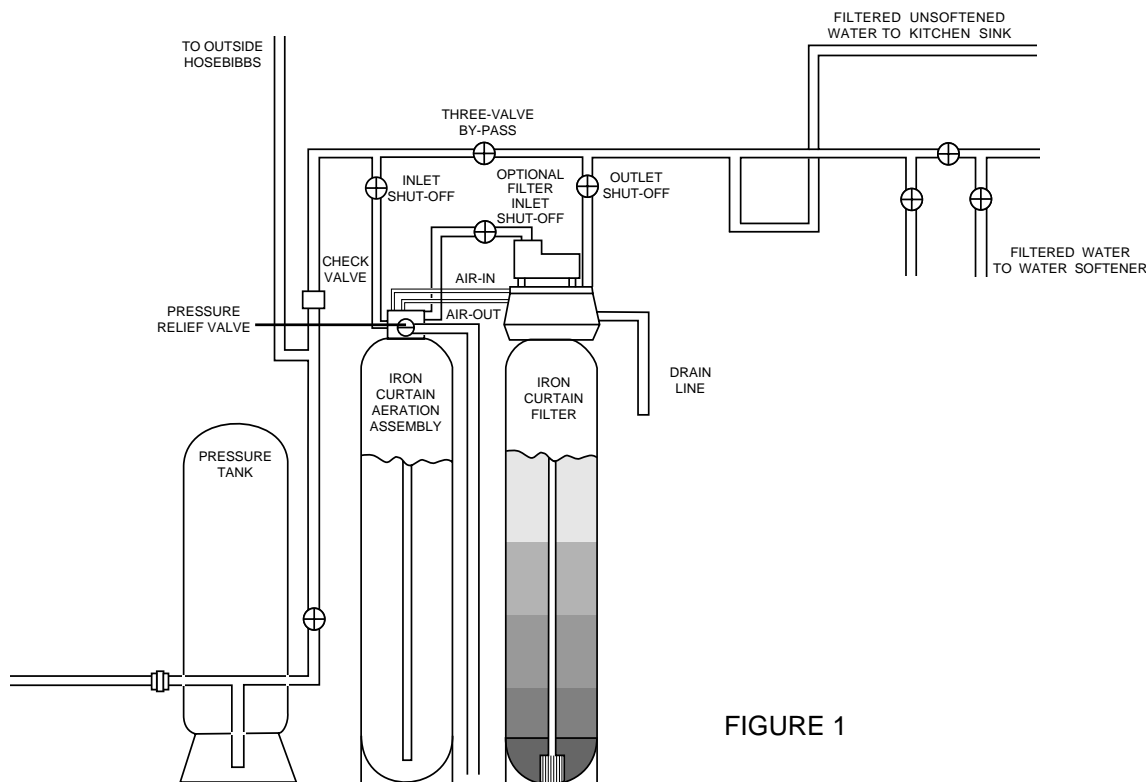

FIGURE 1
Equipment Location: See Figures 1, 2 & 3 on page 8&9.
Location of Aeration and Filter Tank: See Figures 1, 2 & 3 on page 8&9. These two tanks should be installed after the pressure tank and as close to each other as practical. If you want to filter outside hosebibs, be sure the filter system is properly sized to handle the flow rates required for extended periods of time, in addition to the normal household demand.
Check Valve: On applications where there is a non-filtered demand for water such as joint wells (where the filter system is only installed in one of two or more homes), outside hosebibs, farms with outbuildings, yard hydrants, etc. a spring loaded check valve is provided and must be installed ahead of the aeration tank. See Figures 1, 2 & 3 on page 8&9. It is recommended to install the check valve in a vertical upflow position with a minimum 12" water column above the check valve. This prevents air from escaping past the check valve. If the check valve is installed in a horizontal position, and there is a simultaneous demand for both non-filtered and filtered water, the air head in the aeration tank may escape backwards past the check valve into the non-filtered water line and cause air spitting.
By-Pass Valves: Always provide for a three-valve bypass on the filter system. See Figures 1, 2 & 3 on page 8&9.
Optional Filter Inlet Shut-Off: This valve allows for servicing of the filter tank and/or filter control valve without draining the aeration tank. See Figures 1, 2 & 3 on page 8&9.
7. Do all necessary plumbing as shown in Figures 1, 2 & 3 on page 8. If you want to filter outside hosebibs, be sure the filter system is properly sized to handle the flow rates required for extended periods of time, in addition to the normal household demand. Use a PVC compatible thread sealer when connecting fittings to the aeration tank manifold. **Care must be taken not to overtighten fittings into aeration tank manifold.**
See Figures 1, 2 & 3 on page 8..